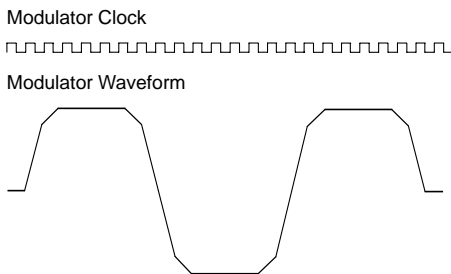
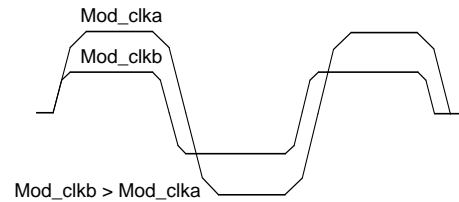

Figure 19. Modulator Waveform and Clock
Figure 20. Two Different Modulator Clock Setting
The modulator waveform is created by charging and discharging a capacitor. A modulator clock controls the timing, as shown in Figure19. For every rise-and fall edge, 4 clock periods are being used. The charging current during these 4 clock periods are not equal, this is to reduce the high frequency components in the waveform, which in turn will narrow the frequency spectrum.
where f_{MOD_CLK} is the modulator clock shown in Figure 19, f_{XCO} is the crystal oscillator frequency Refclk_K is a 6 bit number and Mod_clkS is a 3 bit number. Mod_clkS can be set to a value between 0 and 7. The modulator clock frequency should be set according to the bit rate and shaping.
A f_{MOD_CLK} of 8 times the bit rate (as in Figure 20) corresponds to a signal filtered in a Gaussian filter with a Bandwidth Period product (BT) of 1. When BT is increased, the waveform will be less filtered. Minimum BT is 1 (f_{MOD_CLK} is 8 times the bitrate). Figure 20 shows two waveforms with BT=1 and BT=2, i.e. the f_{MOD_CLK} is 8 and 16 times higher than the bit rate. When changing the BT factor, the charge-and discharge times will also be changed, and therefore the frequency deviation, as shown in Figure 19.